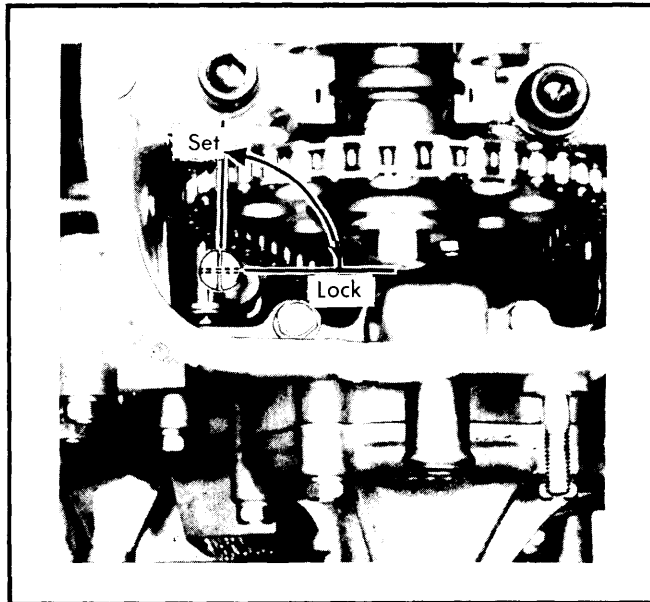
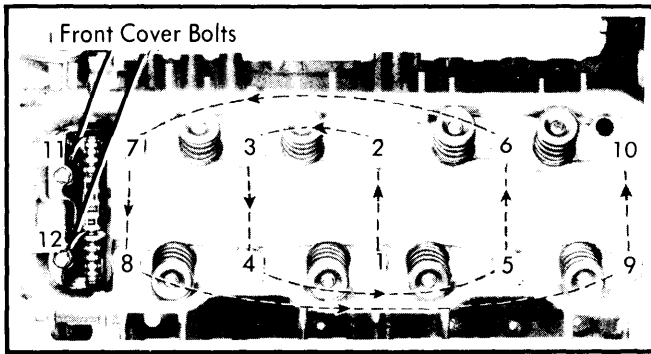
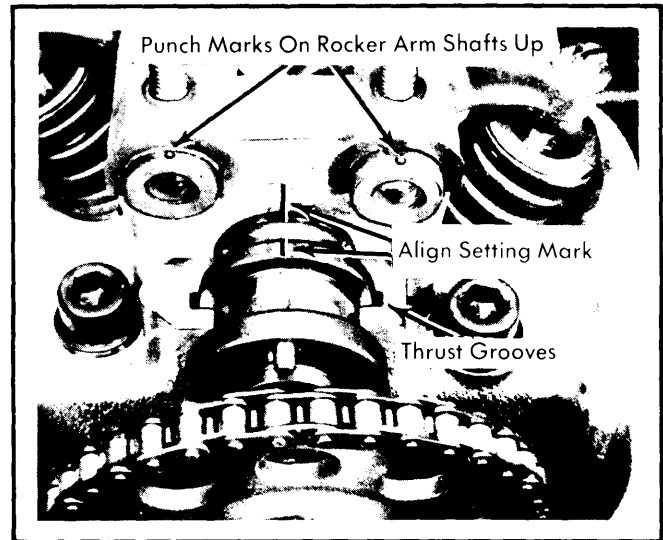

Fig. 1 Locking Timing Chain Adjuster
Fig. 2 Cylinder Head Bolt Loosening & Tightening Sequence
Fig. 4 Installing Camshaft & Rocker Arm Assembly
2) Remove EGR pipe clip from rear of cylinder block, and disconnect exhaust pipe from manifold. Remove cylinder head cover, lock timing chain in place (See *Fig. 1*), and separate sprocket from camshaft. Disconnect air hoses from check valve and AIR pump. Remove air bypass valve and bracket, and remove two bolts securing front cover and cylinder head. Loosen cylinder head bolts in sequence shown in *Fig. 2*. Remove cylinder head with exhaust and intake manifolds.
2) Align cylinder head over dowels, oil cylinder head bolt threads and install bolts. Install two bolts securing front cover to cylinder head. Tighten cylinder head bolts in sequence (See Fig. 2) in two stages. Tighten securely front cover-to-cylinder head bolts.
2) Align mark on camshaft with mark on No. 1 rocker arm shaft bracket by turning crankshaft, Fig. 4. Lock the automatic chain adjuster in free state, by pressing downward on pin while turning it 90 degrees clockwise (See Fig. 1).
Installation — 1) Lubricate camshaft and rocker arm assemblies well prior to installation. Install camshaft, aligning thrust grooves, Fig. 4. Be sure punch marks on rocker arm shafts are in upward position.
2) Install rocker arm shaft bracket assembly and align camshaft mark with mark on No. 1 rocker arm shaft bracket. See Fig. 4. Tighten rocker arm shaft bracket nuts to 16 ft. lbs. (2.2 mkg) torque, while holding rocker arm springs with an adjustable wrench.
3) Align crankshaft pulley groove with TDC mark ("O" mark) on front cover. Be sure No. 4 cylinder (rear) is at TDC. Align sprocket hole with camshaft pin. Install sprocket and tighten bolt to 58 ft. lbs. (8.02 mkg). Set automatic chain adjuster by turning pin 90 degrees counterclockwise (See Fig. 1). Be sure chain is tensioned.